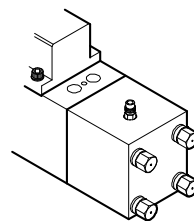

Fig. 8-2
- 2) Release N_2 gas from the head cap. If not released, it would be very dangerous. => Fig. 8-2.